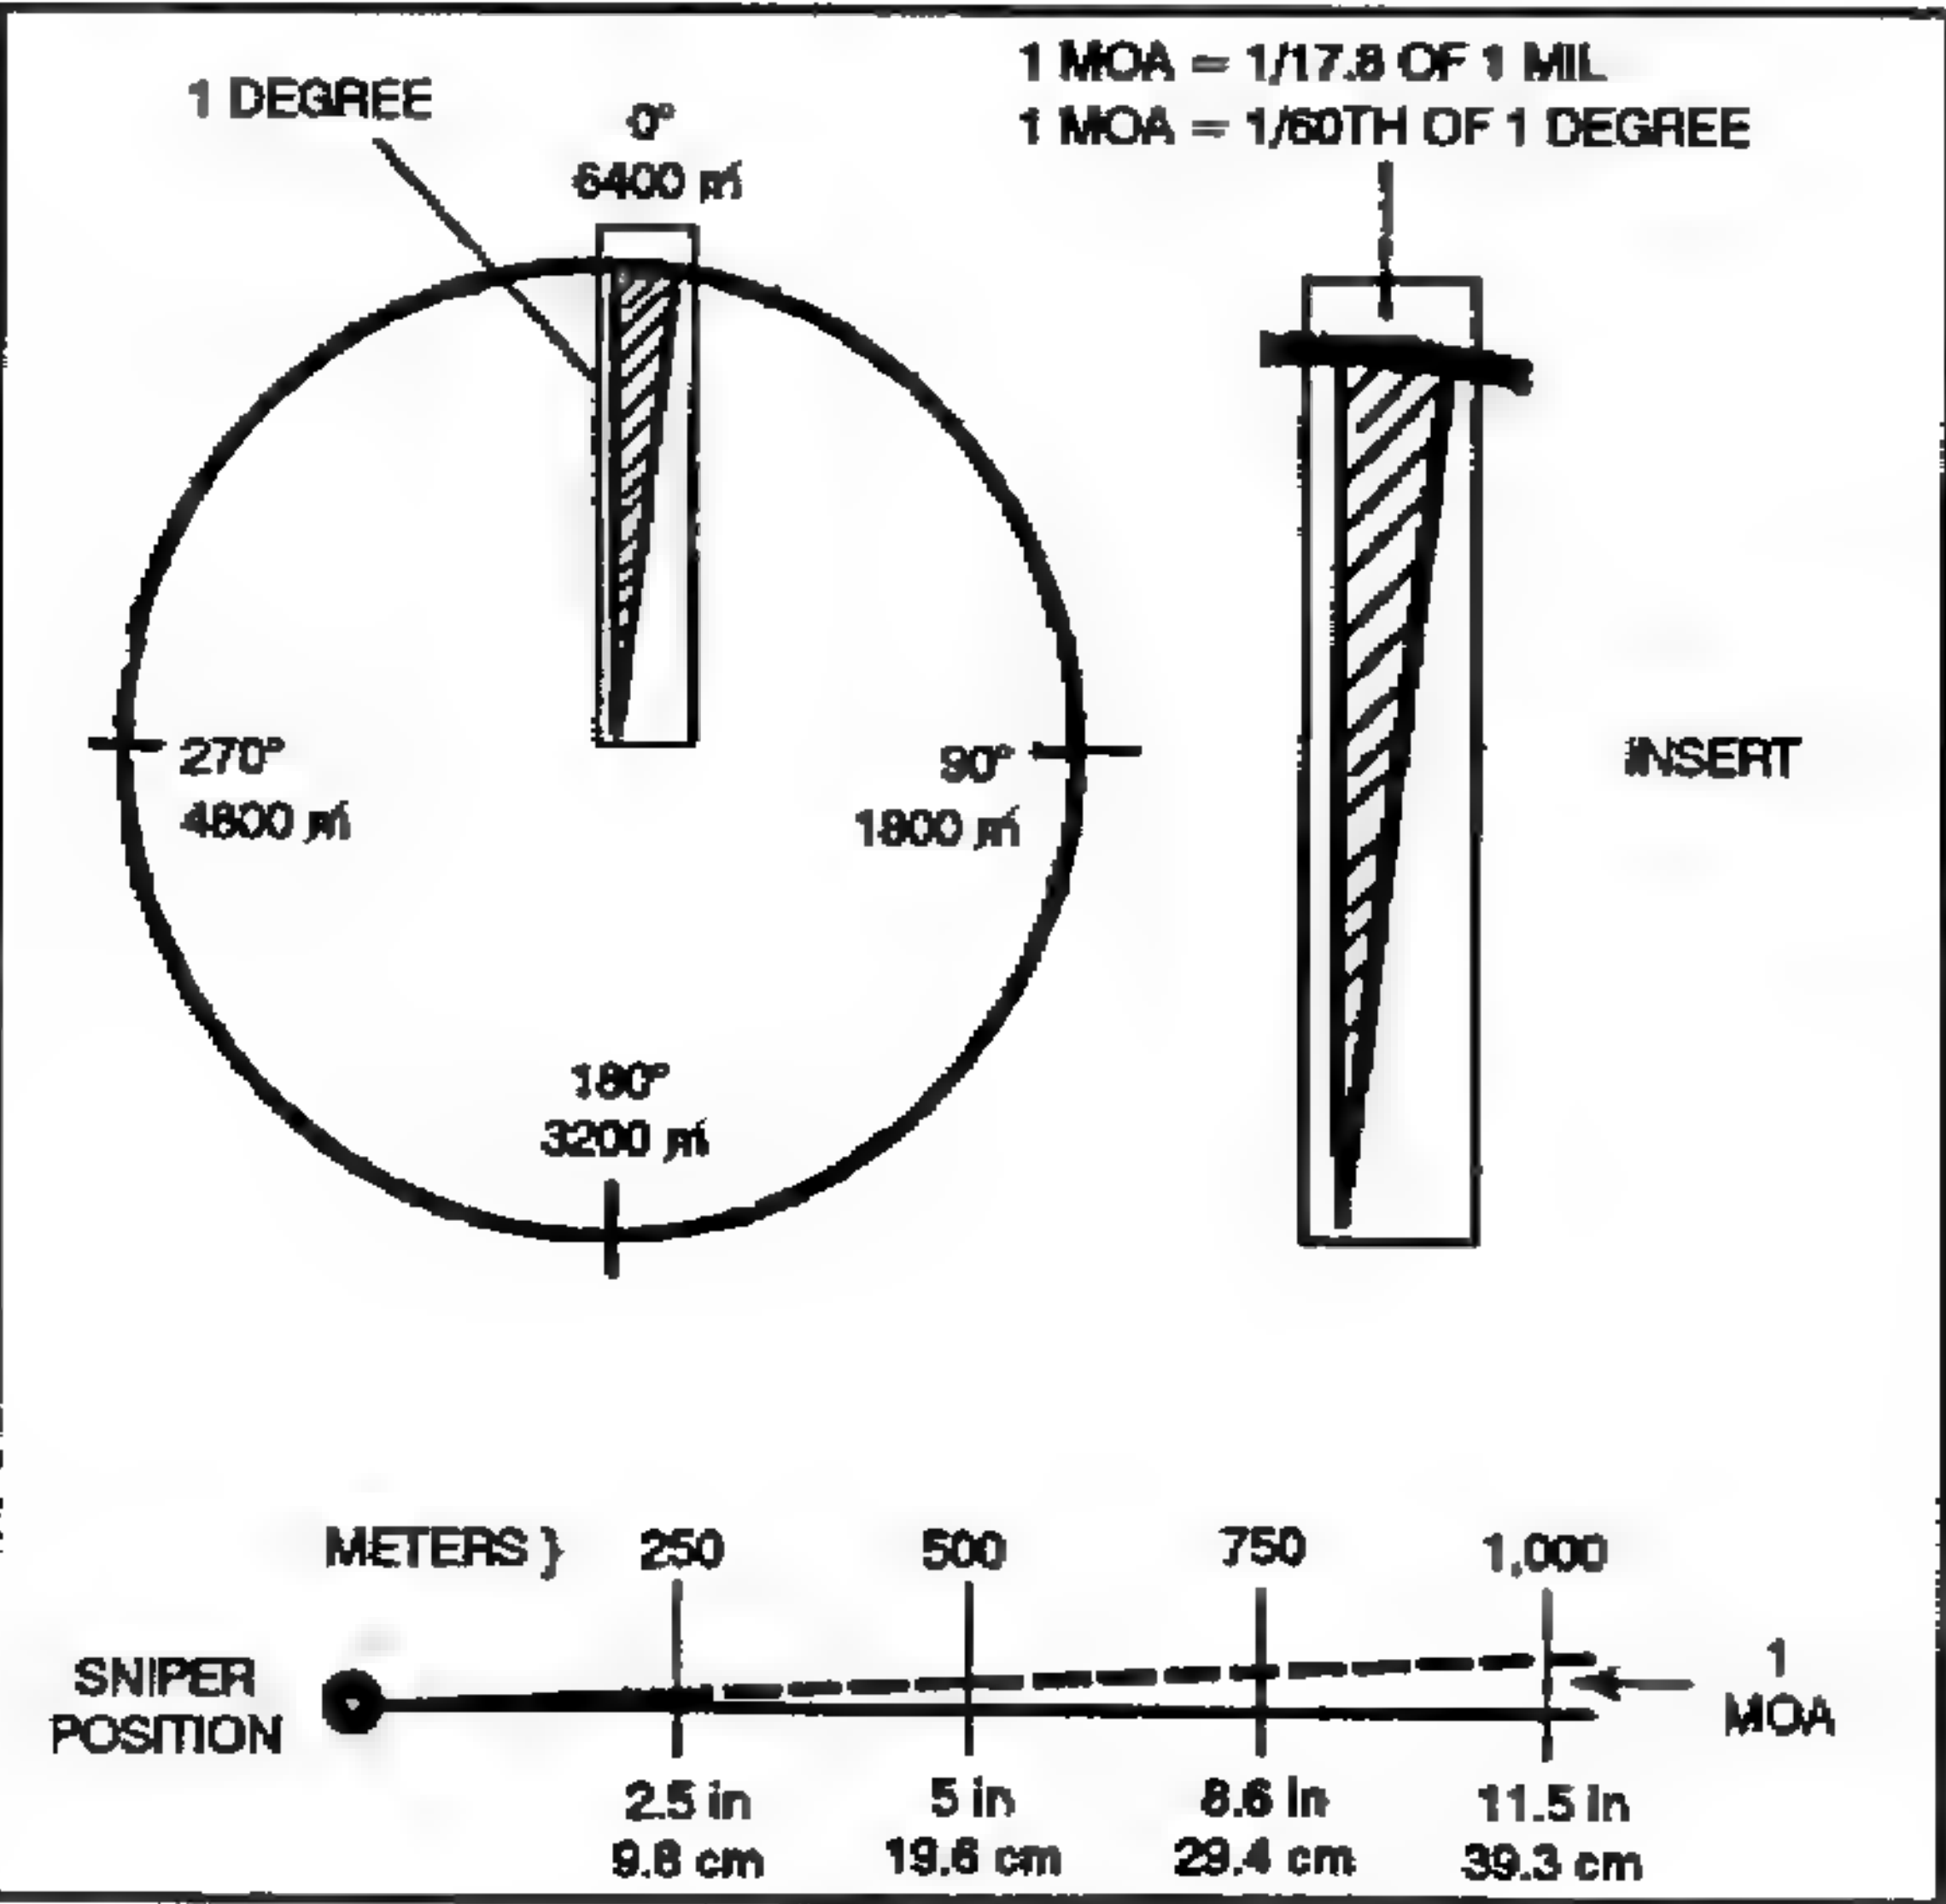

Figure 3-22. Minutes of angle.
All telescopic sights have windage adjustments that are graduated in minutes of angle or fractions thereof. A minute of angle is 1/60th of a degree (Figure 3-22, page 3-34). This equals about 1 inch (1.145 inches) for every 100 meters.
a. Snipers use minutes of angle (Figure 3-22, page 3-34) to determine and adjust the elevation and windage needed on the weapon's scope. After finding the wind direction and velocity in miles per hour, the sniper must then convert it into minutes of angle, using the wind formula as a rule of thumb only. The wind formula is—